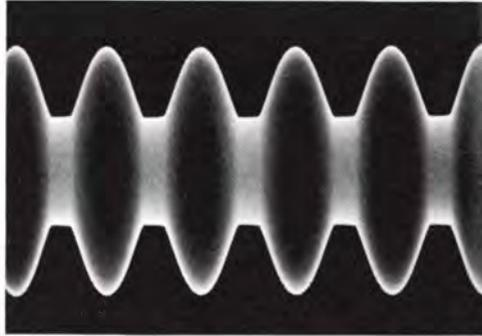
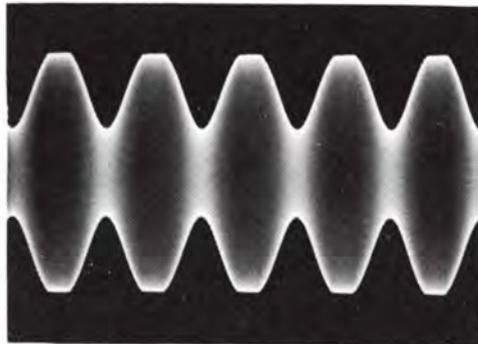

Figure 3-2. Correctly Phased Modulated R-F Envelope
Figure 3-3. Incorrectly Phased Modulated R-F Envelope
- 8) Figure 3-2 shows a correctly phased waveform. If a waveform as in figure 3-3 is obtained, reverse the output leads. The output is now correctly phased.